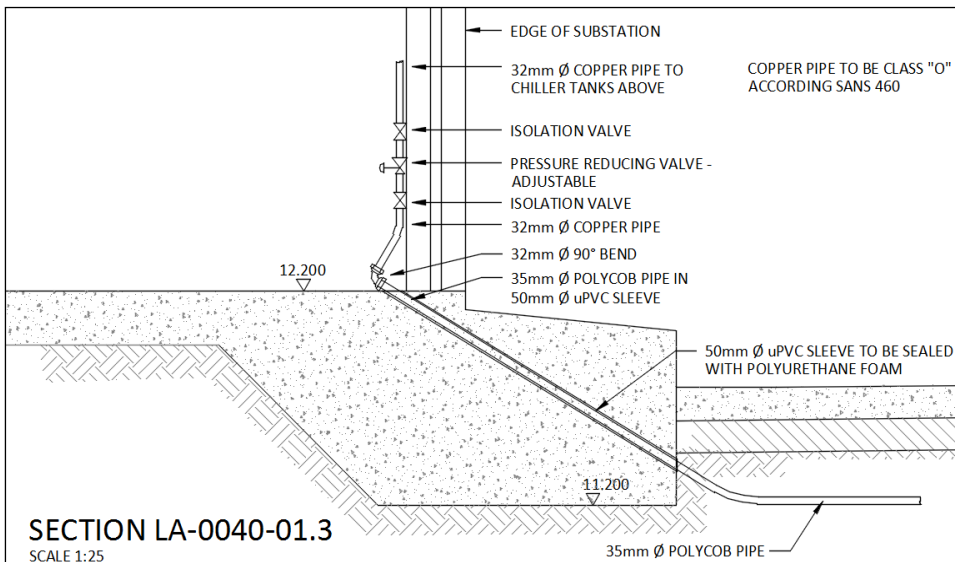

Figure 41: Typical Building Connection Detail
- Figure 41: Typical building connection detail.